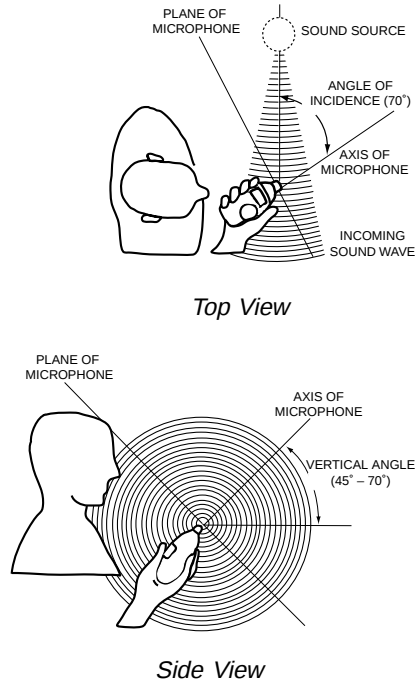

Figure 3-2. Orientation of Microphone and Operator with respect to incoming Sound Waves.
- When making measurements in a free or semi-reverberant field, orient the microphone so that the angle of incidence, formed by incoming sound waves and axis of the microphone, is equal to the random incidence angle of the microphone. For the 886-2 this angle is 70° (refer to Figure 3-2).